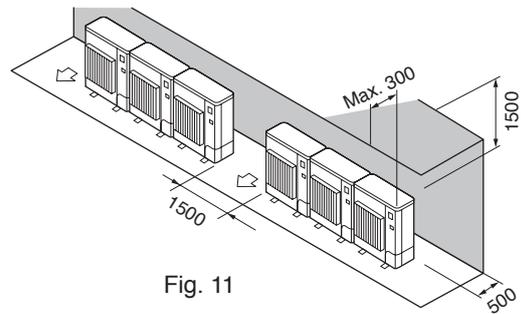

Fig. 11
(2) Obstacles at rear and above only (Fig. 11)